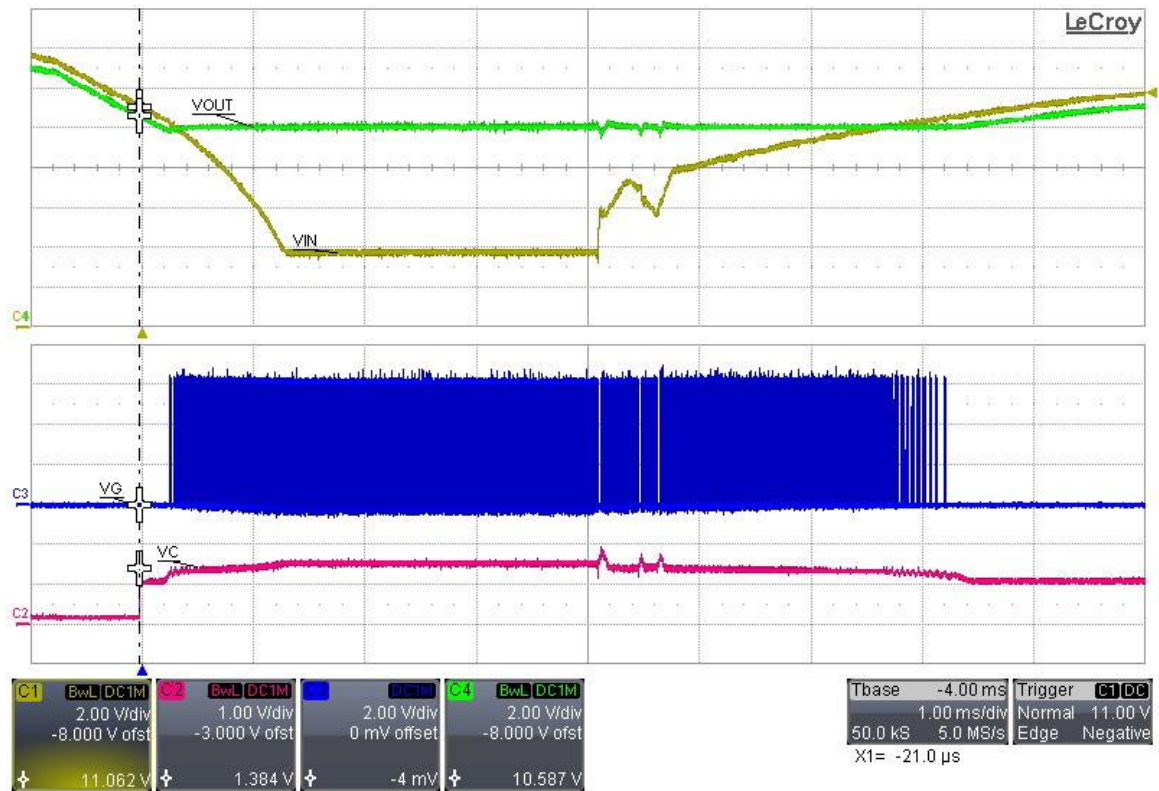

Figure 3. NCV887701 Evaluation Board Waveforms
3. Monitor VOUT. Disconnect supply DC1. VOUT should have a response similar to that of Figure 3.